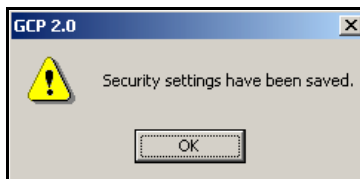

Figure 3-2 *The confirmation window.*
7. Tap the **Add/Edit User** arrow, the confirmation window will confirm that your security settings have been saved (Figure 3-2). Tap **OK**